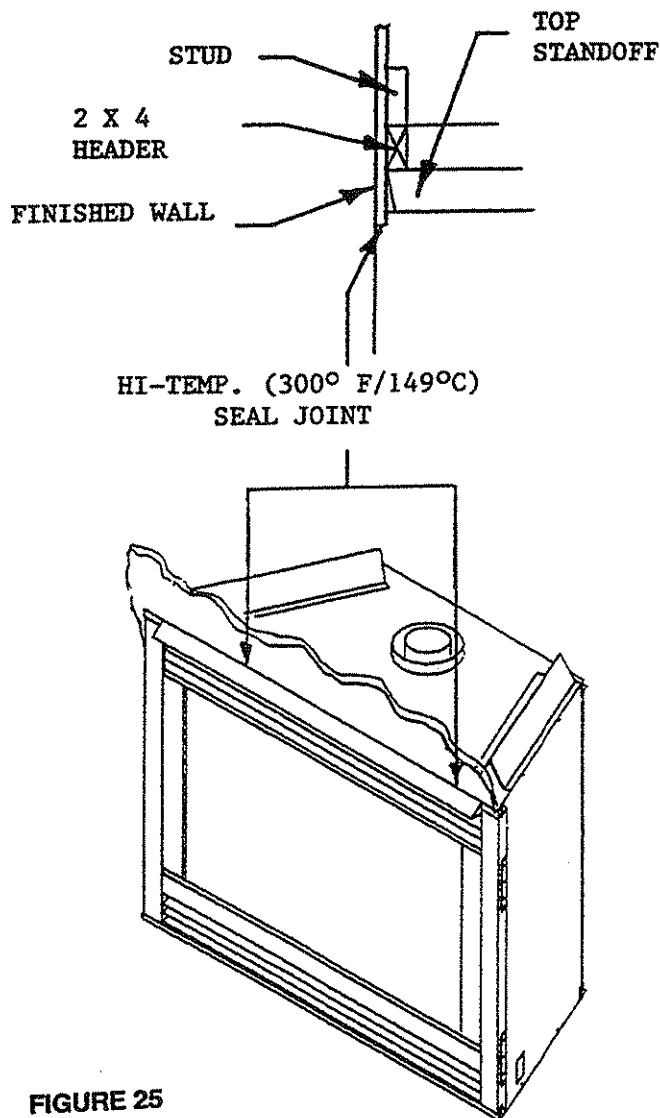

FIGURE 25
**CAUTION:** ALL JOINTS BETWEEN THE FINISHED WALL AND THE FIREPLACE SURROUND (TOP AND SIDES) CAN ONLY BE SEALED WITH A 300° F. MINIMUM SEALANT MATERIAL. ONLY NON-COMBUSTIBLE MATERIAL USING 300° MINIMUM ADHESIVE IF NEEDED, CAN BE APPLIED AS FACING TO THE FIREPLACE SURROUND. SEE FIGURE 25.